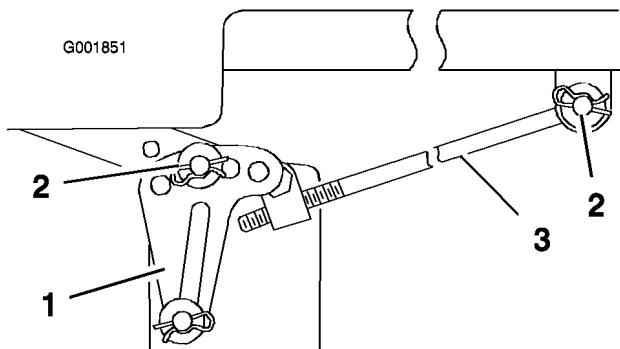

Figure 48
Note: Before removing the mower, make a note for which holes are used in the leveling brackets (Figure 48).
5. Remove the hairpin cotter and washer from the adjusting rod (Figure 48) on each side of the mower.
6. Remove the hairpin cotter and washer at the mower leveling brackets (Figure 48) on each side of the mower. Note which hole the leveling bracket is mounted in for future installation. Slide the brackets off of the mounting pin.
5. Attach the adjusting rod to the machine with the washer and hairpin cotter (Figure 48) on each side of the mower.
6. Slide the leveling brackets onto the mounting pins and secure them with the washers and hairpin coppers (Figure 48).